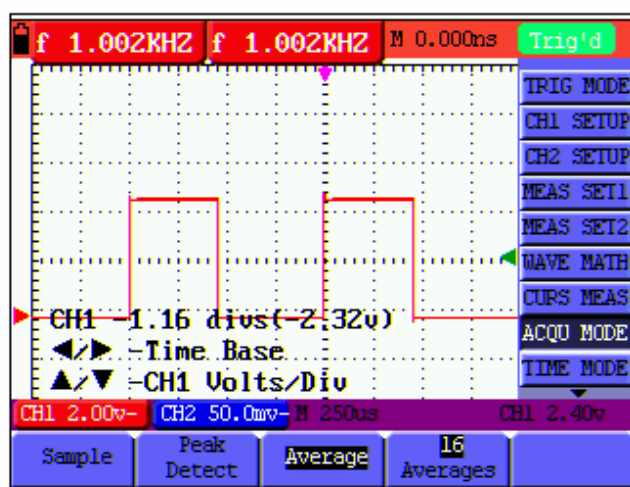

figure 14: Average Factor Sampling Mode
3. Press the **F3** key to select **Average Factors**, then, press **F4** key to jump to **Averaging 16** item. This averages the outcomes of **16** acquisitions and shows the final averaging result on the screen, shown as the following figures. See the following figure 14: